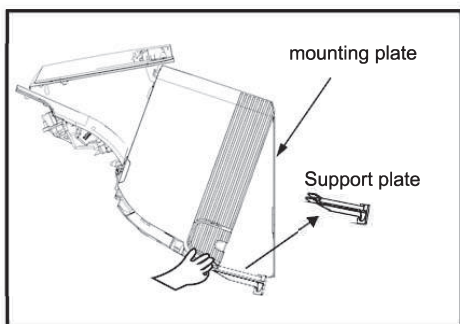
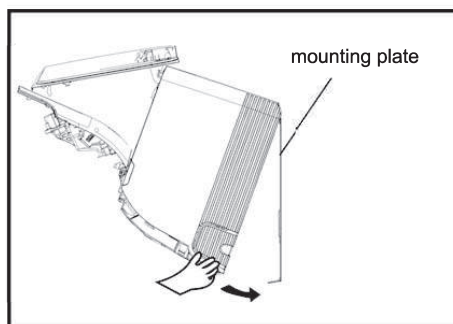
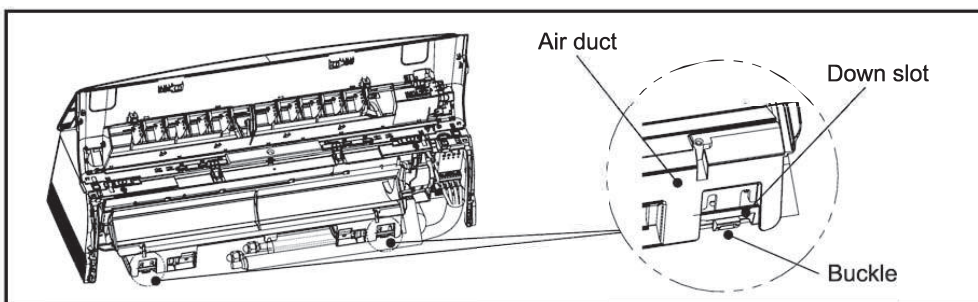

Fig. 19
Fig. 20
Fig. 21
9) Remove the support plate as shown in Fig. 19. Then move the unit step by step to reach the best installation, then press the 2 buckles of the air duct into 2 down slots of the mounting plate. (Fig.20 and Fig.21)